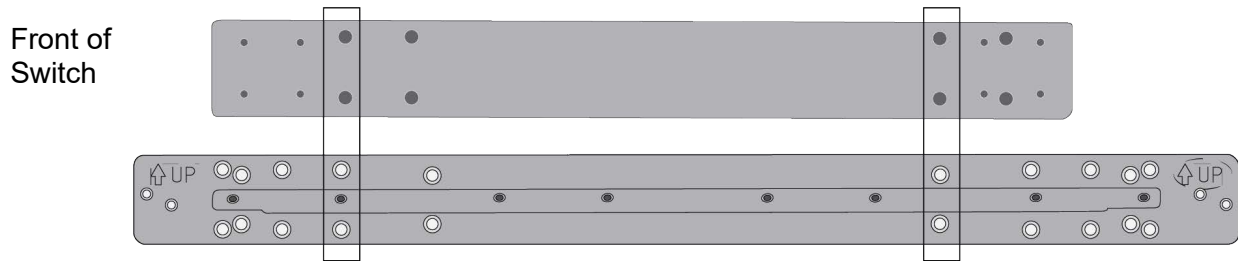

Figure 22. Inner Rail Screw Holes for the x530DP Series
**x530DP Series** Use four screws on each side. Refer to Figure 22.